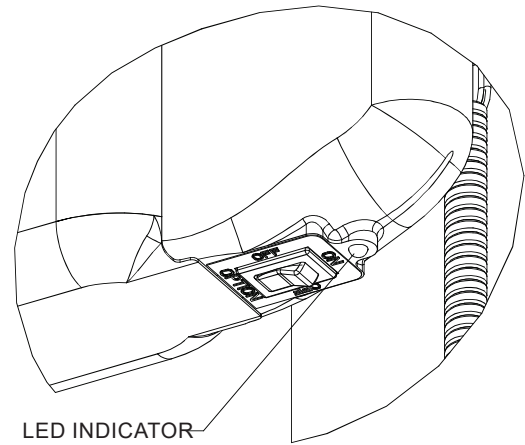

Figure 32
4. Refer to Figure 32, and VERIFY that the LED indicator lights GREEN.